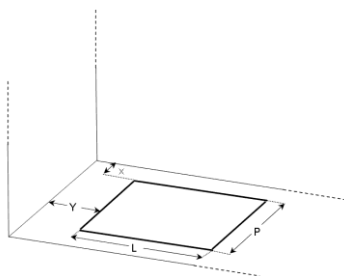

Figure 3
Hole size (W x D) to house the appliance and critical distances (X and Y) vary from model to model. See table and figure 3 below.
N.B.: In figure 3, the side of the furniture is shown to the left of the appliance. If you wish to install it on the right, observe the same critical distances indicated in the table (Y).